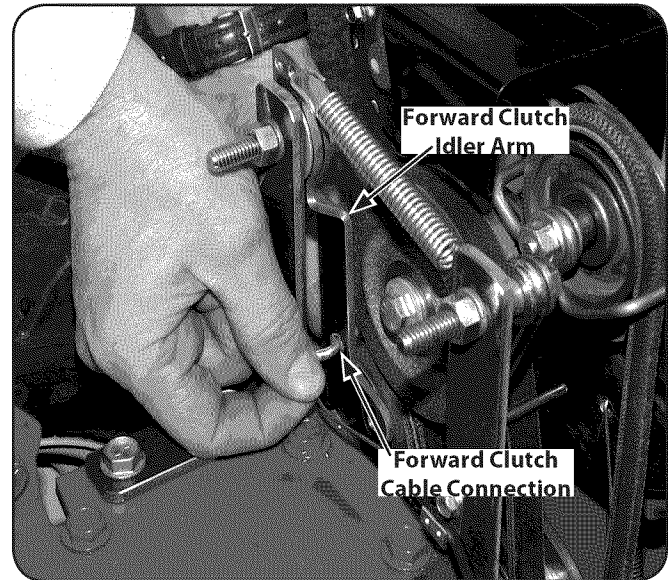

Figure 7-2
4. Disconnect the forward clutch cable from the forward clutch idler arm bracket. See Figure 7-2. Note the hole from which you disconnect the cable. It is important that you reconnect the cable to the same hole.
- Reconnect the forward clutch cable to the correct hole in the idler arm bracket, as shown in Figure 7-2.